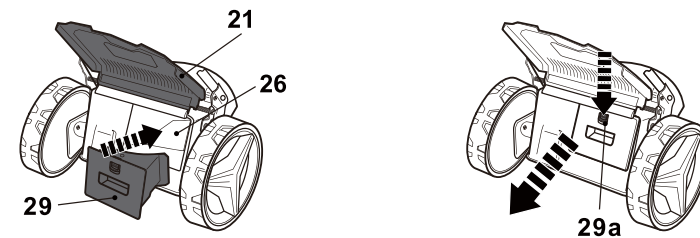

Fig. 14
1. Open the rear deflector guard (21), hold it in position and insert the mulching insert (29) into the rear discharge chute (26). Ensure the unlock button (29a) snaps in place.
2. Press the unlock button (29a) down to release and remove the mulching insert (29) (Fig. 14).